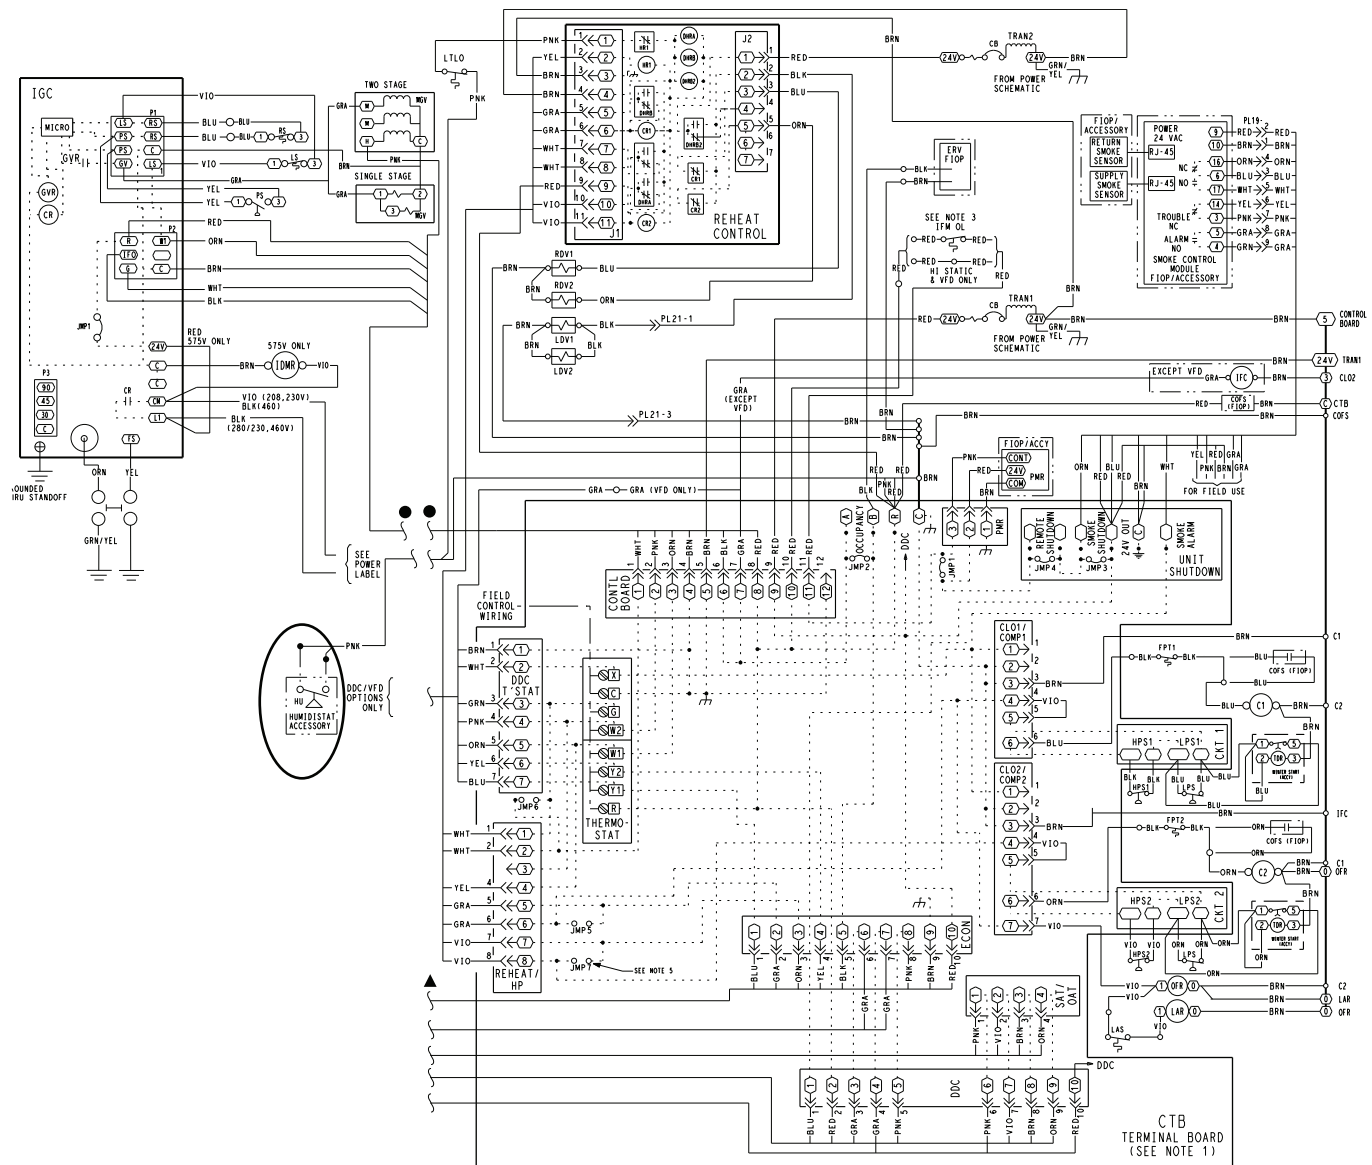

Fig. 70 — 48TC16, Typical Humidi-MiZer® Adaptive Dehumidification System Humidistat Wiring**
5. Use wire nuts to connect humidistat cable to two PINK leads in the low-voltage wiring as shown in Fig. 70.